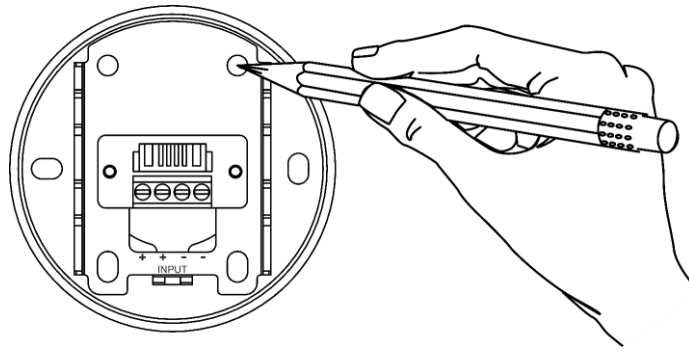

Fig. 07
01) Hold the **mounting plate (07)** against the wall, as shown in Fig. 07, and mark the mounting locations.